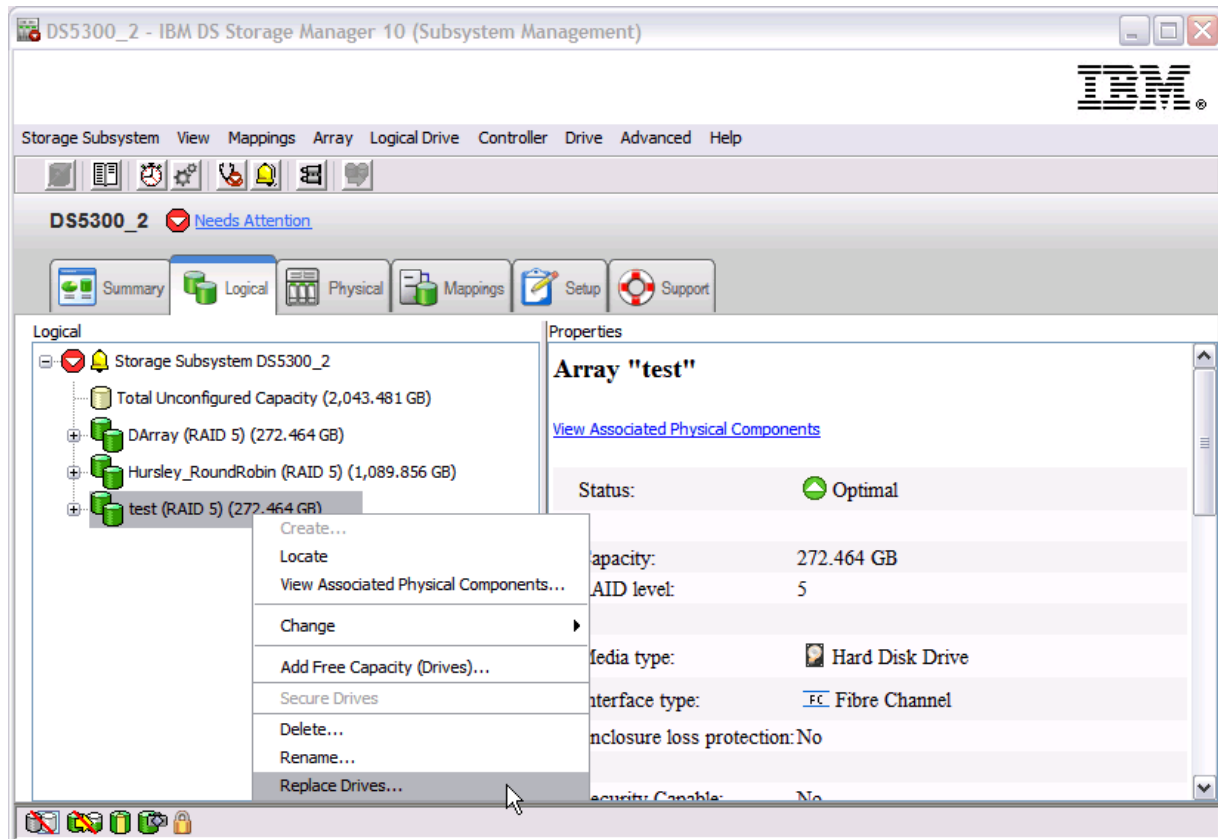

Figure 5-105 Replace drive
- ▶ The alternate solution is to make another disk a permanent replacement for the failed drive. When we right-click the icon for the array with the failed disk in the logical view, we are given the Replace Drives option, as shown in Figure 5-105 on page 414. This menu option is normally grayed out when all drives in the array are optimal.